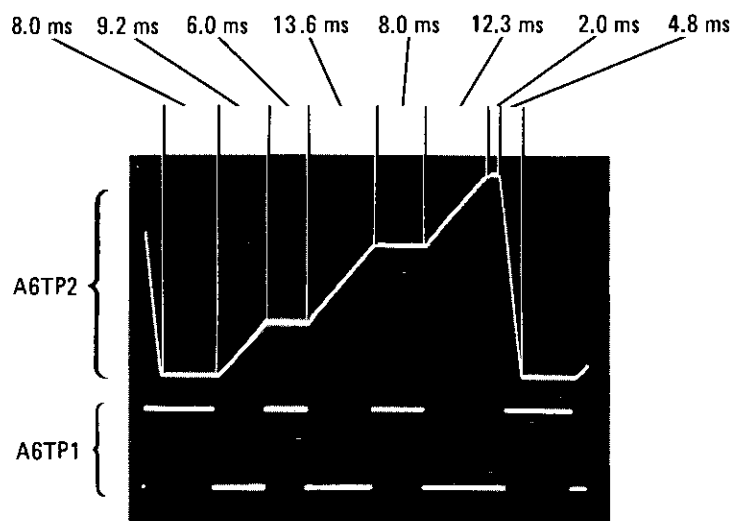

Figure 5-3. Stop Sweep Timing Waveform
- f. Press 8620C FULL SWEEP pushbutton. Connect oscilloscope Channel A to A6TP1 and Channel B to A6TP2. Display should appear as shown in Figure 5-3. Time durations shown are typical; actual times measured may vary slightly.